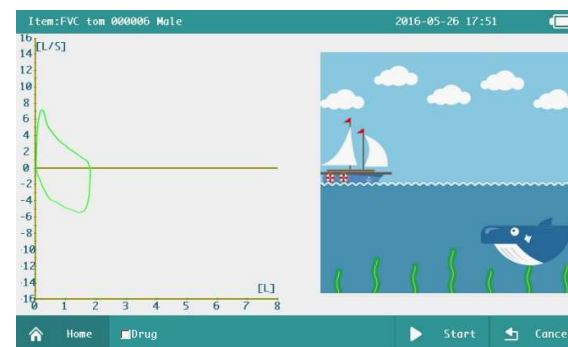

Figure 6-4
(1) In the *quick test interface* , click " " to enter the FVC testing *interface* , then the user can choose whether to tick the **【Drug】** button according to the condition of the drug being consumed, as shown in Figure 6-4.